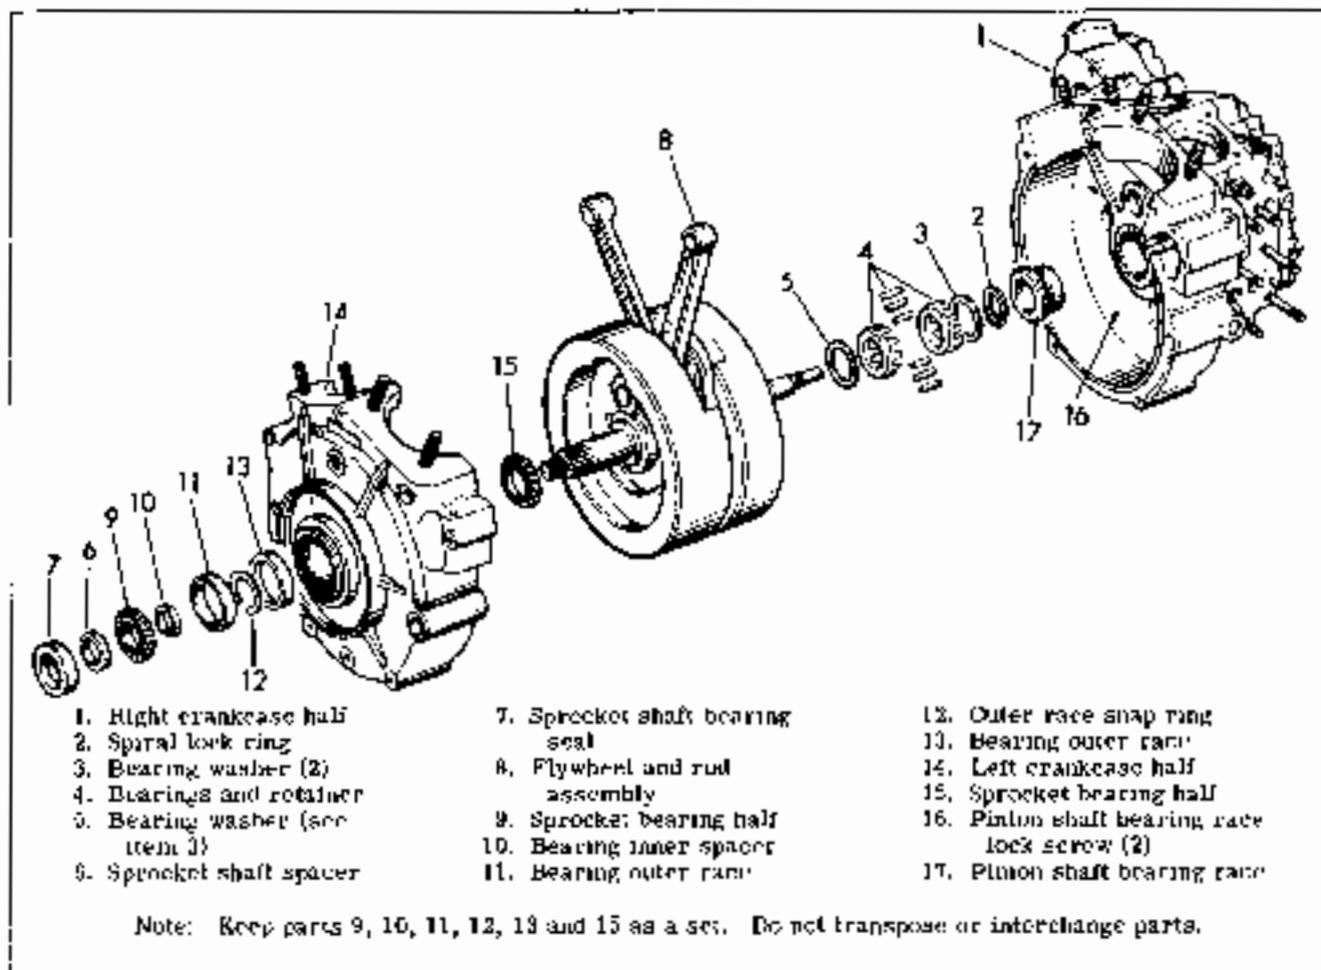
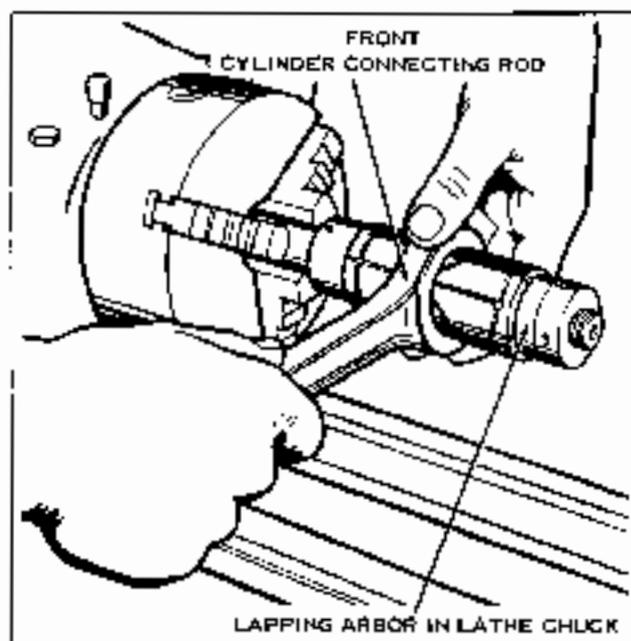

Figure 3-34. Crankcase - Exploded View
Figure 3-40. Lapping Connecting Rod Bearing Race
Refer to Figure 3-34 and continue disassembly:
3. EXAMINE pinion shaft and right crankcase bushing (see 17, Figure 3-34) for pitting, grooving and gouging at point where right main roller bearings ride. A shaft that is worn must be replaced. If bushing is worn beyond repair, replace as described in "Truing and Sizing Pinion Shaft Main Bearing."
and are otherwise in serviceable condition, should be trued and sized with Connecting Rod Lapping Arbor, Part No. 96740-36 (see Figure 3-34) as shown in Figure 3-40.
A race that is worn beyond limits of oversize bearings must be replaced. To remove worn bearing race, remove two bearing race lock screws (17, Figure 3-34) from inside of case. Heat case to 275 - 300 degrees F. Heating expands case and makes it possible to remove bearing race using less force. Press worn race (18, Figure 3-34) out and new race in. New race must be lapped slightly to true and align with left case bearing, and to attain a size compatible with roller sizes available.